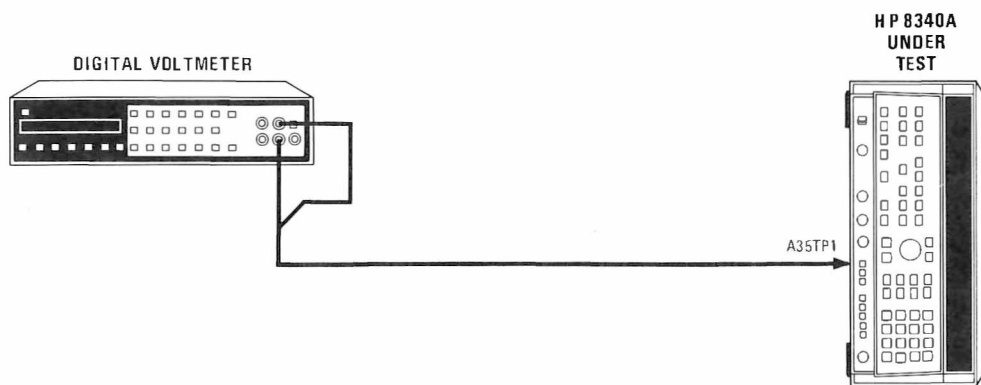

Figure 5-1. +22 Volt Power Supply Adjustments Setup
1. Position 8340A in the test position and connect equipment as shown in Figure 5-1.